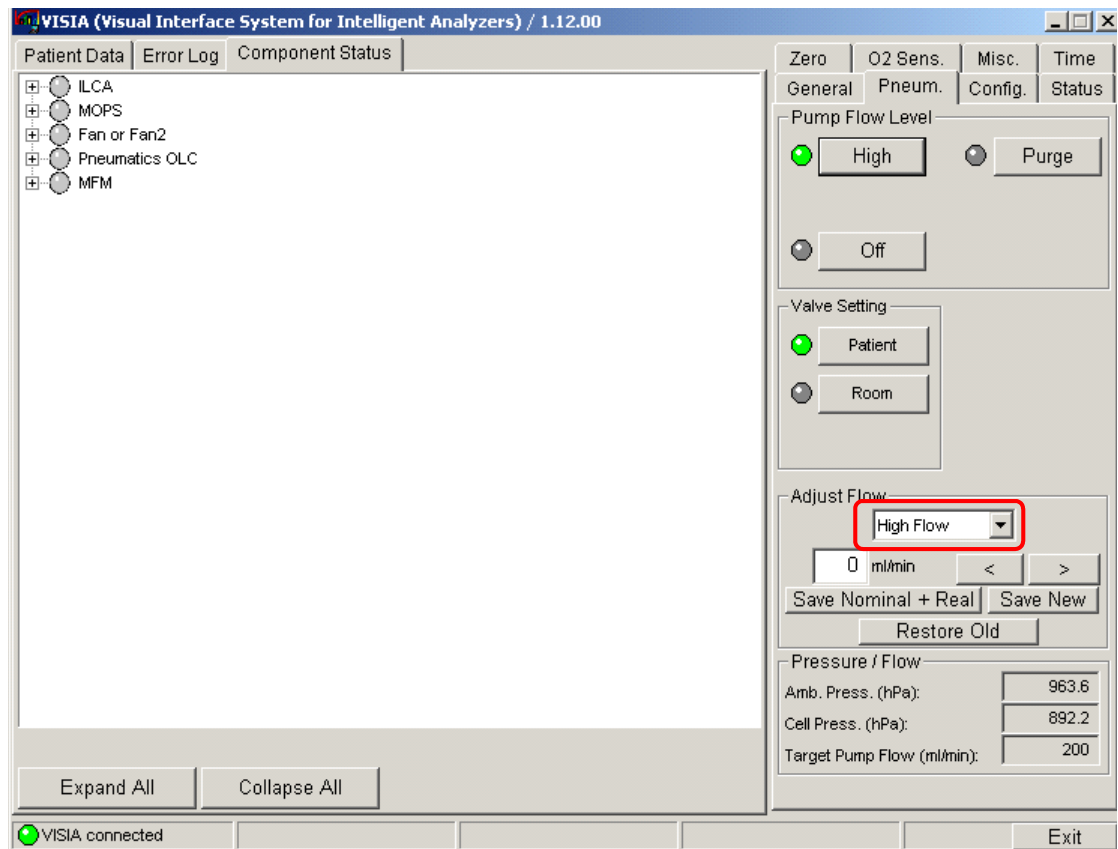

Figure 11 Flow Rate Adjustment
- 2 Select High Flow in the Adjust Flow pull down menu (See Figure 11).